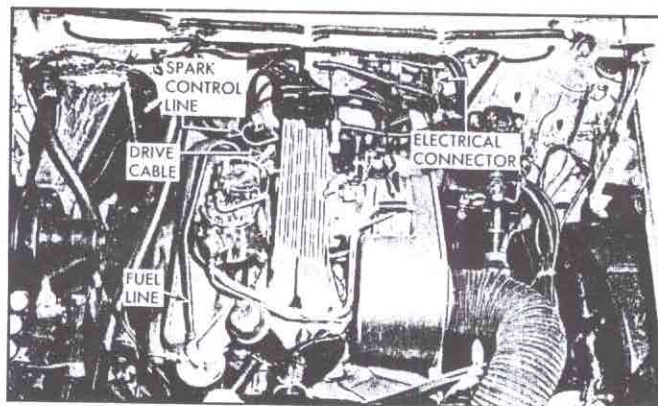

Fig. 119—Fuel Injection—Installed View
1. Disconnect and remove fuel injection pump drive cable by unscrewing nut attaching cable housing to distributor, pull housing and cable out of distributor, and then pull housing and cable free of fuel injection pump (fig. 119). Use care not to lose small fiber washer from drive cable assembly.
5. Disconnect electrical connector (fig. 119) for the starting cut-off switch and cold enrichment coil.
6. Loosen the spark control pipe (fig. 119) at the distributor, then disconnect pipe at air meter end. Pipe should be loosened to allow its movement during removal of the Fuel Injection unit.